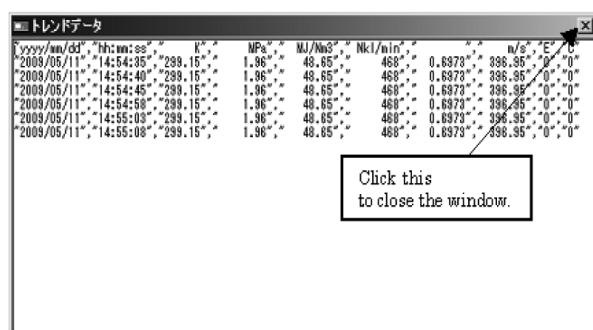

Fig. 9.5.7 Trend data Window
- Trend data of selected file as shown in Fig. 9.5.7 appears.